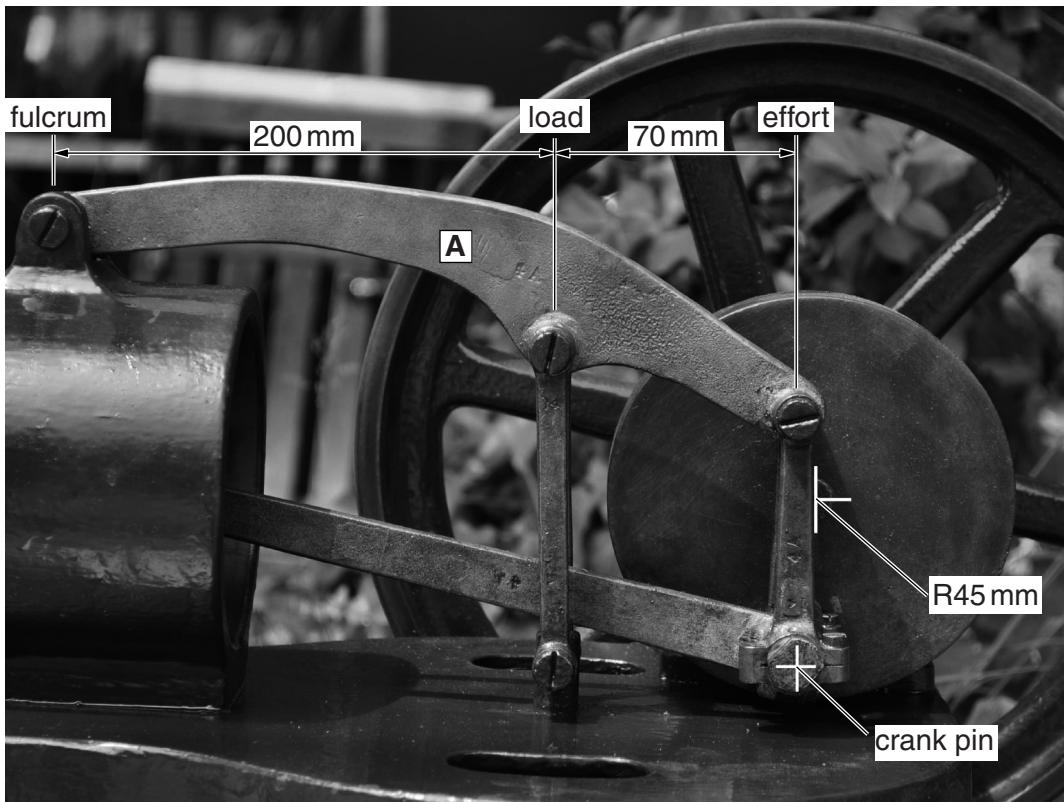

Fig. 6
- 3 (a) Fig. 6 shows part of a hot air engine mechanism.
- (ii) Using information shown on Fig. 6, state the throw of the crank pin shown.